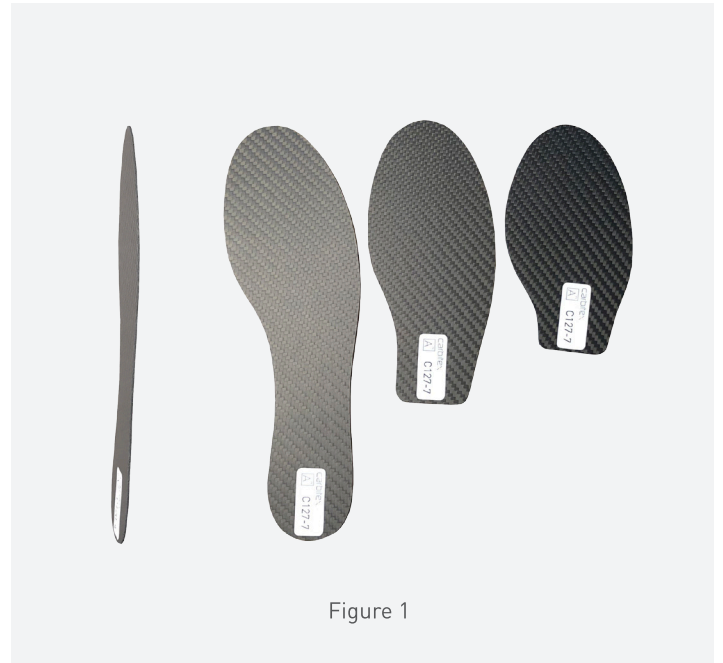

Figure 1
2. Preferred Characteristics for optimum AFX benefit (*Figure 1*)